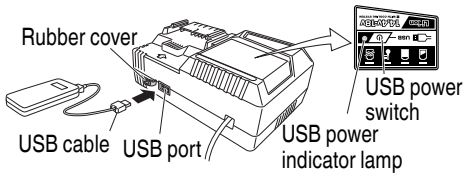

Fig. 8
- Turn the USB power switch ON (Fig. 8)
- (3) Connect the USB cable. (Fig. 8)
- (4) When charging is completed
- Turn the USB power switch OFF and unplug the power cord from the electrical outlet. (Fig. 8)